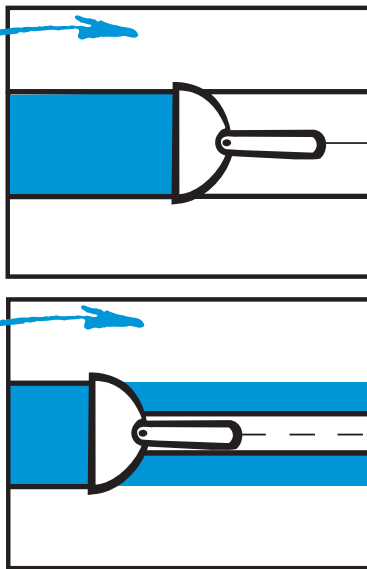

FIGURE 8 Bedding Coat
- Place tape along the joint and bed it into the compound, removing excess compound and any air bubbles from behind the tape. [Refer to Figure 8]